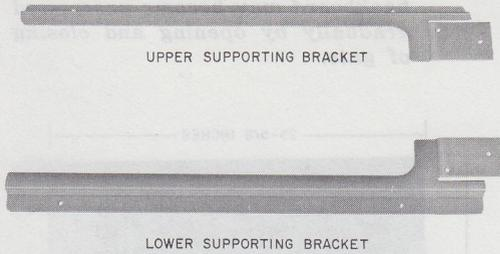

Fig. 24—D-179860 Kit
5.06 The D-179860 kit (Fig. 24), designed to fit over the upper and lower edge of an ED-69368-50, Group 1 backboard, consists of two light olive gray finished, Z-shaped, 1/6-inch steel supporting brackets, and four No. 14 RHW screws. Four holes and a slot are provided in each bracket for fastening to the backboard and wall surface. These brackets may be used, as desired locally, to strengthen or reinforce existing or new backboard installations.